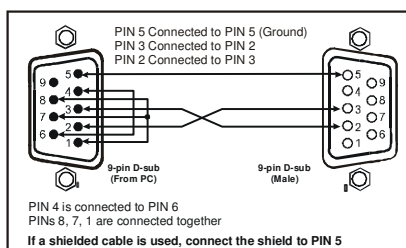

Figure 5: Connecting a Device without using a Null-modem Adapter
- Connect the RS-232 9-pin D-sub port on your device to the RS-232 9-pin D-sub rear panel port on the Master **RC-160** unit, as Figure 5 illustrates